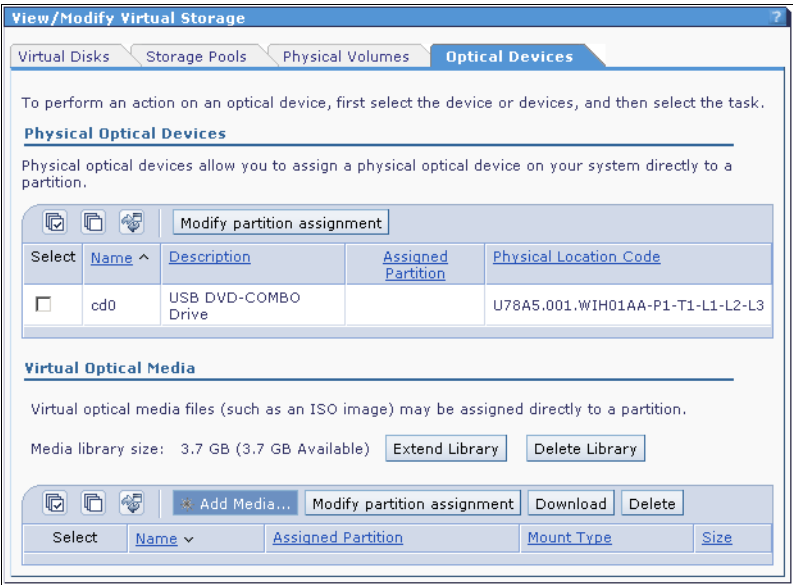

Figure 6-6 Media library - add media
6. It takes a moment to create the library volume and file. After that is done, return to the panel shown in Figure 6-6. Click **Add Media** to create an image from the AIX DVD.